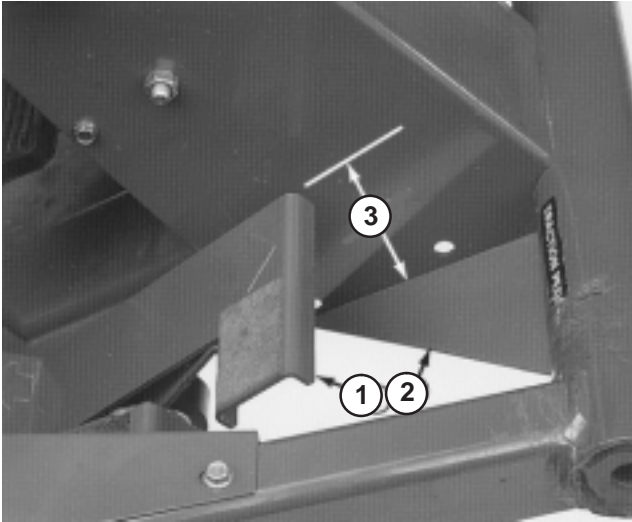
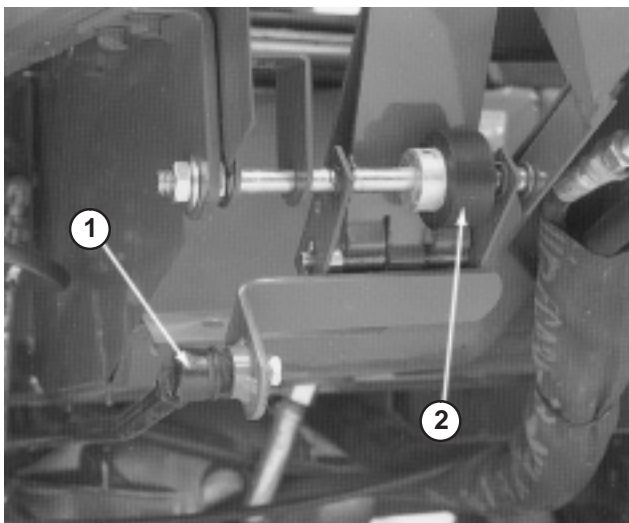

Figure 39
Figure 40
2. Press down on front of traction pedal and check travel. There should be approximately 3.50" clearance between end of pedal and floor plate when pedal in fully depressed (Fig. 39). Adjust pump control rod (Fig. 40) to attain dimension.
1. Loosen two nuts securing traction pedal shaft on right side of pedal (Fig. 40).